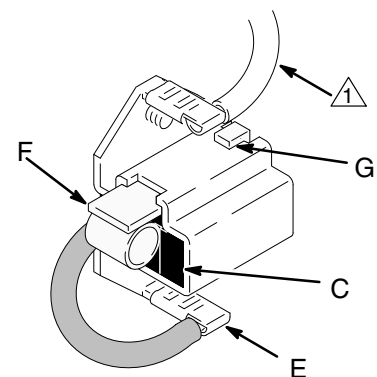

Fig. 16
7. Holding spring clip (F) at a slight angle, slide spring clip into brush holder and hook it over end of holder. See Fig. 16. Pull on spring clip to be sure it stays in place. Connect brush lead to blade connector (E).
- a. Remove pump connecting rod pin (14).